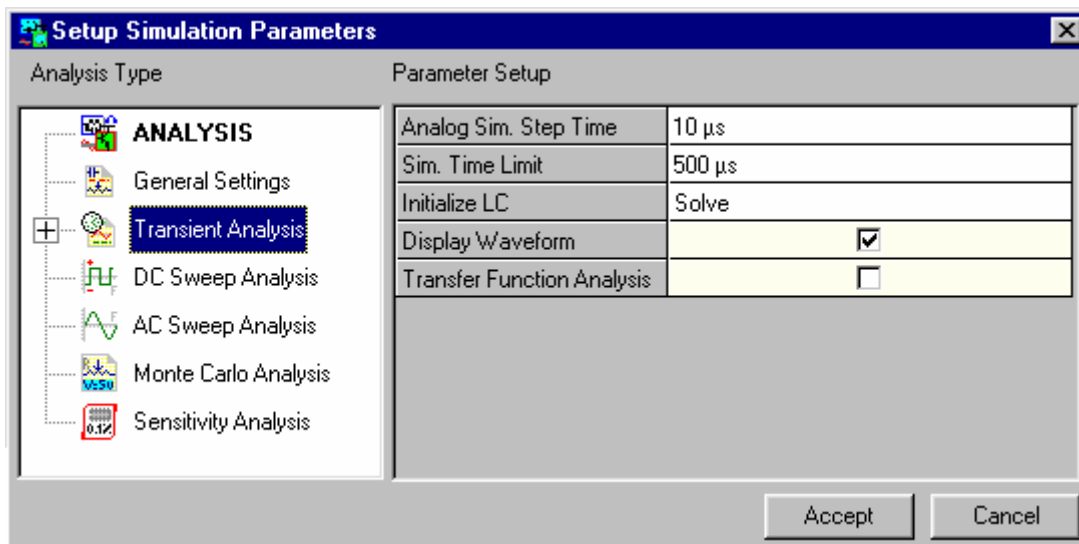

Fig. 6.11
4. Place **Logic state marker** on the input node of U1 and on output nodes (Q) of all D-Flip flops using the option tool  **Logic Waveform** enabled from the function tool  **Set Waveform Contents**
5. Click **Analysis** in the main menu. A window Setup Simulation Parameters opens with the option Analysis being highlighted on the left side of the window by default. Set the parameters by selecting **GENERAL SETTINGS** from the tree view on the left side of the window. Select **Transient Analysis** and set Analog Sim. Step Time to 10 microseconds. Set Simulation Time Limit to 500 microseconds. Set Initialize LC to Solve. Click the **ACCEPT** button to automatically switch to the Analysis option and select the **START** button to begin the analysis (Refer Fig. 6.11).